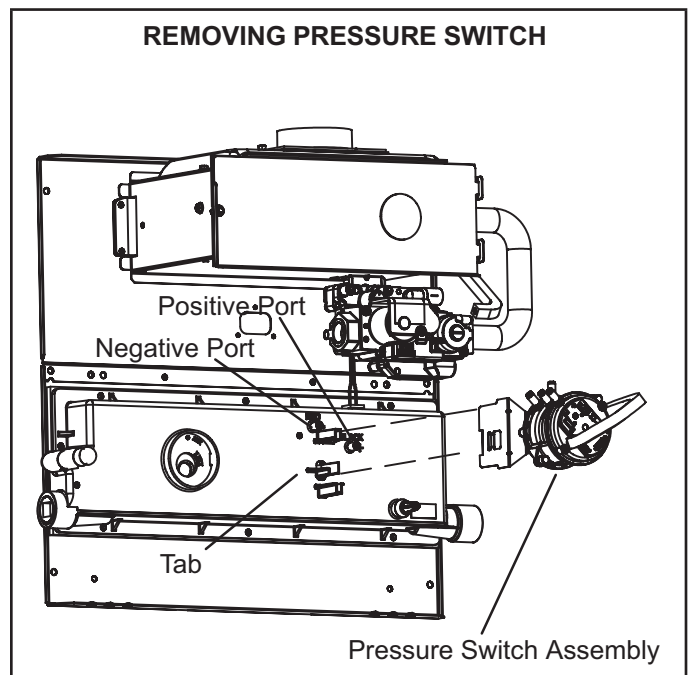

FIGURE 1
- 4 - Remove the existing pressure switch by carefully pressing the tab which secures the switch assembly to the cold end header box. See figure 1.